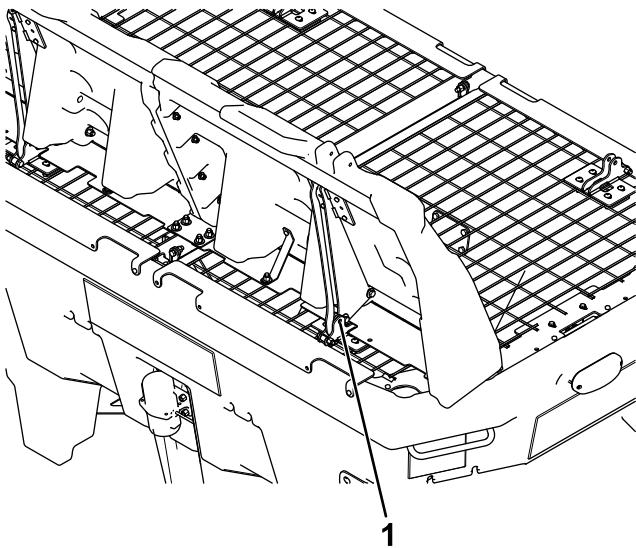

Figure 21
- Lift a cover onto the spreader and stand it vertically as shown in Figure 21.
- Line up the slots in the tracks with the holes in the mounting brackets (Figure 21).
- Slide the rollers on the tracks until they line up with the holes in the mounting brackets (Figure 21).